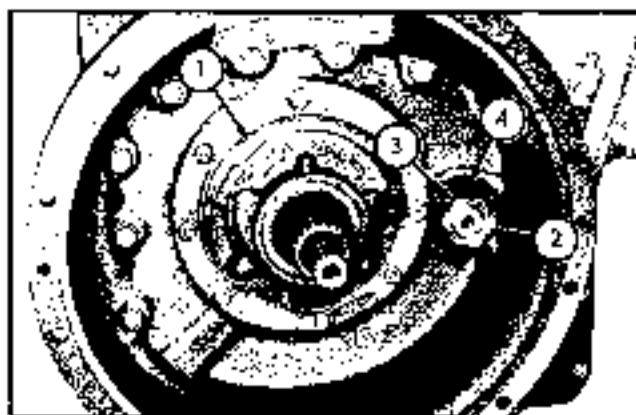

Fig. 1-46. Transmission removed
- a. Remove drive plate (27) and converter (26). Remove bearing cap (13) and "O" ring (13).
- b. Straighten out the two bear tabs on washer (3, figure 1-46), and remove the two lock nuts (2, figure 1-46).